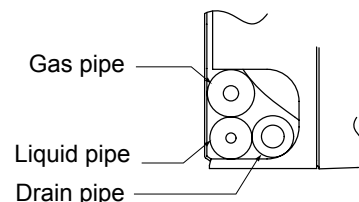

Fig. 8
- Position the refrigerant piping in the left piping space of the indoor unit as shown in Fig. 8.